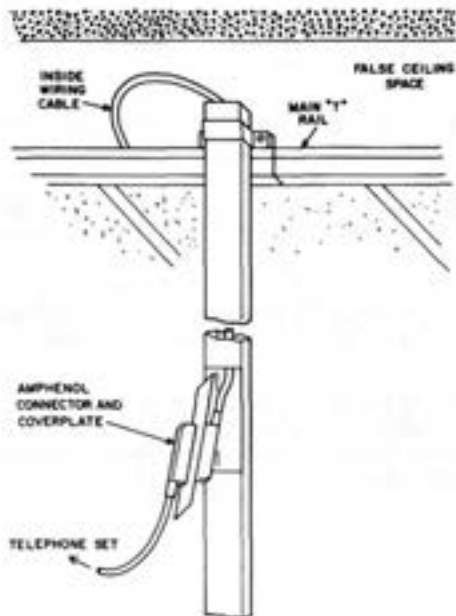

Fig. 10—Utility Column Installation
6.04 The utility columns should be attached, or supported, by the main T rails in the ceiling as shown in Fig. 10. It is not recommended that these columns be attached to the transverse or cross rails unless these rails are rigidly anchored to the main T rails.